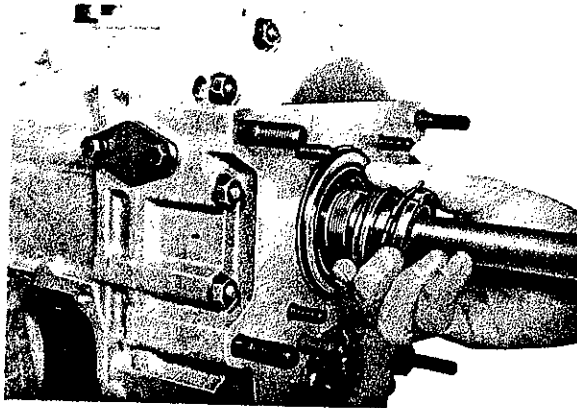

Fig. 49
Insert circlip (206 and 431) into grooves of tapered ball bearings (207 and 430). Push both tapered ball bearings into housing bores. Slide inner race of ball bearing, lock washer (205) and slot nut (204) on input shaft (Fig. 49). Screw slotted nut on threads (lefthand threads) and tighten with tool .6. (tightening torque 18 to 22 kpm), while engaging two speeds. Bend one tab of lock washer into matching groove of slot nut.